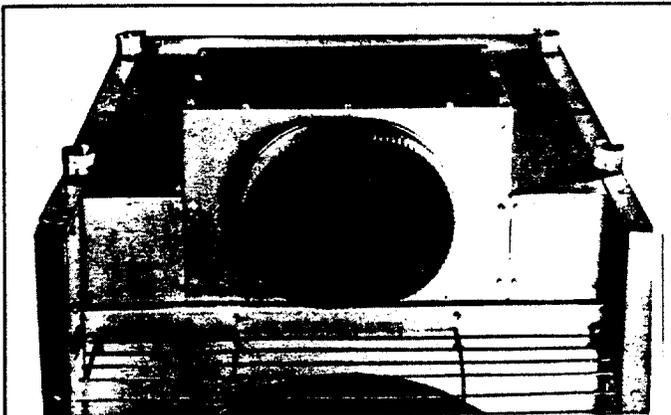

Figure 7 - Four-Point Suspension with Swivel Connections (Applies to both fan and blower models)
3) Four-Point with Swivel Connectors (fan models only) - Option CK9 (See Figure 7)
4) Four-Point Swivel Connectors - Option CK10 (See Figure 7)